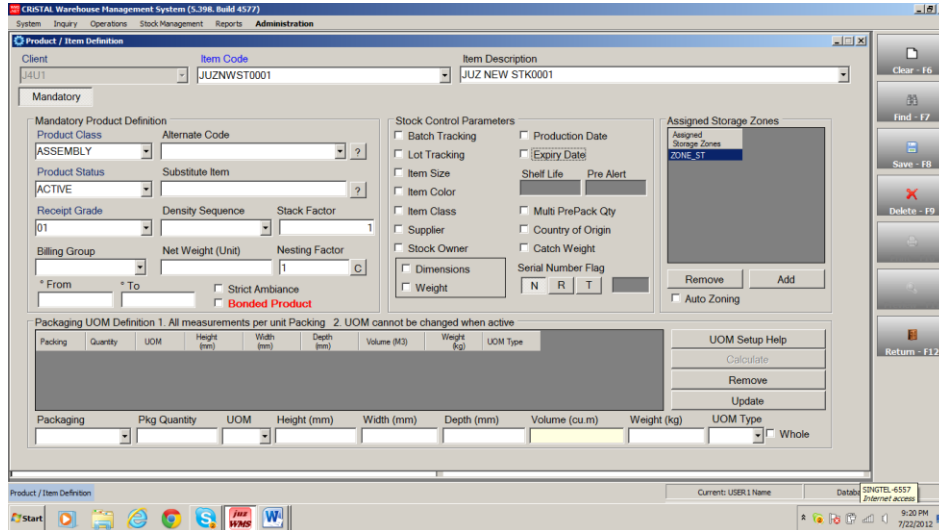

Fig.1
1. Select and enter a client name at the 'Client' field. (Fig.1)